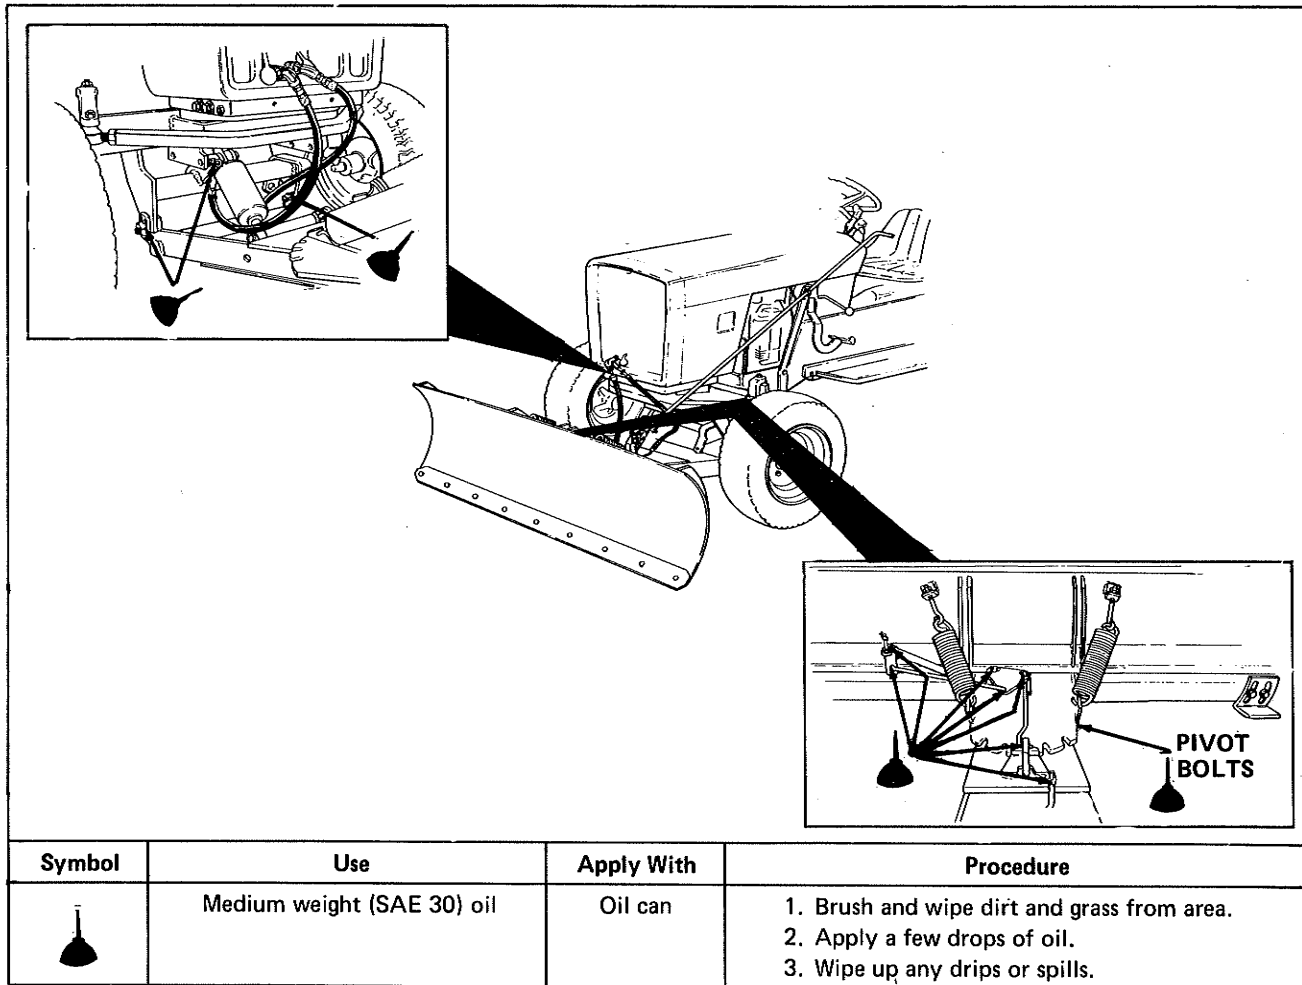

Figure 9. Lubricate Snow Plow/Dozer Blade (25-Hour Care)
The only care required for the snow plow/dozer blade on a regular scheduled basis is lubrication. The lubrication should be done as shown in figure 9 before the first use and after every 25 hours of operation.
4. Lubricate snow plow/dozer blade. (See figure 9.)